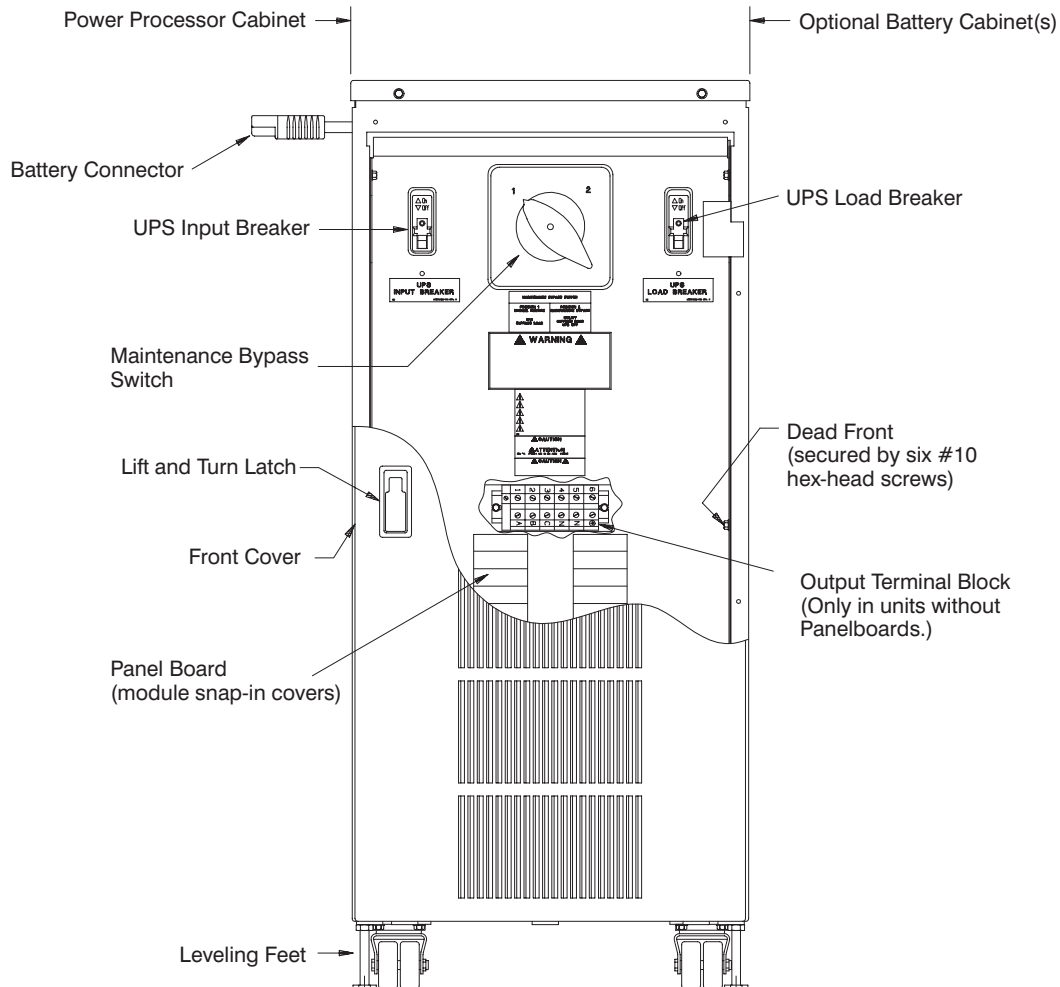

Figure 20. Options Cabinet (Front View)
- Remove the six #10 hex-head screws on the dead front cover (see Figure 20). Remove the panel. Retain the panel and screws.